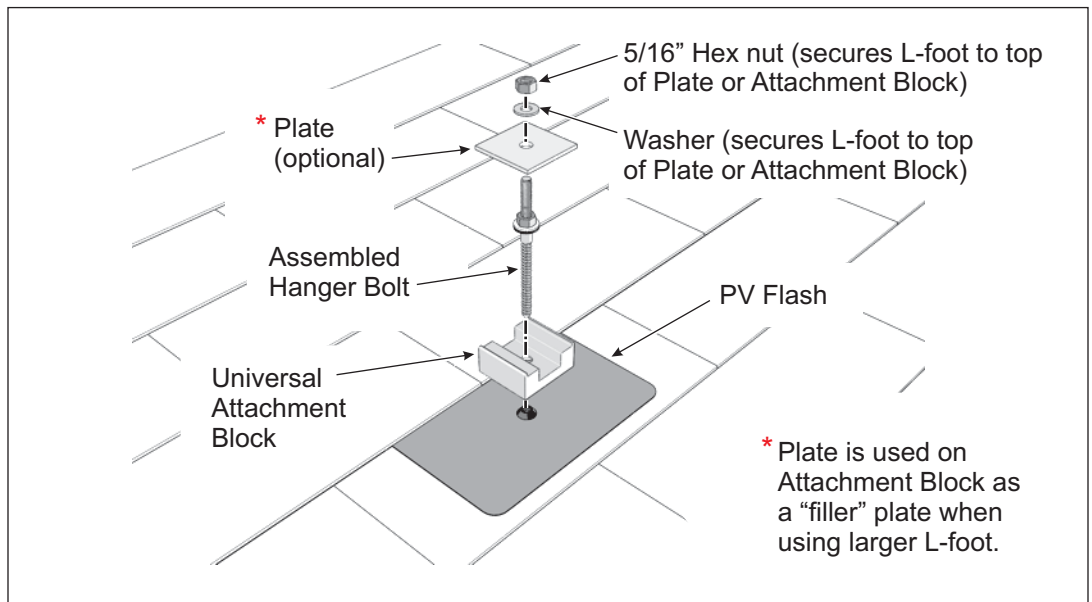

Figure 3-1: Securing the Universal PV Flash to Roof
- A. Place the Universal attachment block onto the rubber bushing of the PV Flash. (See Figure 3-1)